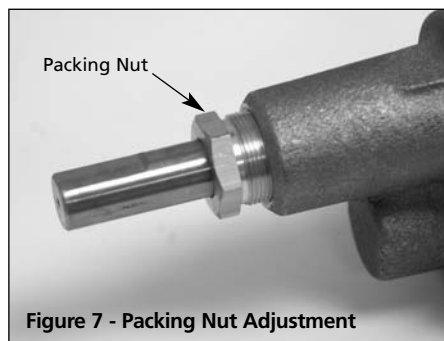

Figure 7 - Packing Nut Adjustment
3. Install packing nut and tighten lightly (See Figure 7).
5. Start pump and adjust packing nut so packing seal drips 10 drops every 3 to 5 minutes (See Figure 7).